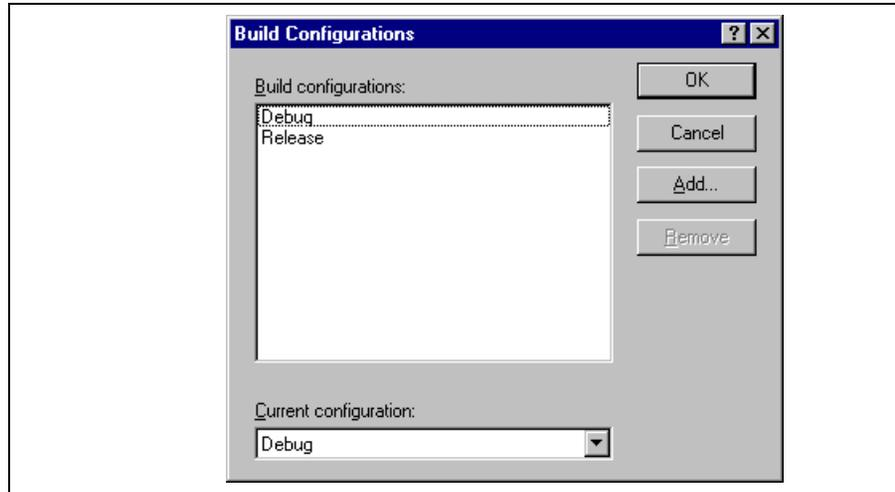

Figure 2.16: Build Configurations Dialog
1. Select [**Options->Build Configurations...**]. This will invoke the “Build Configurations” Dialog (Figure 2.16).